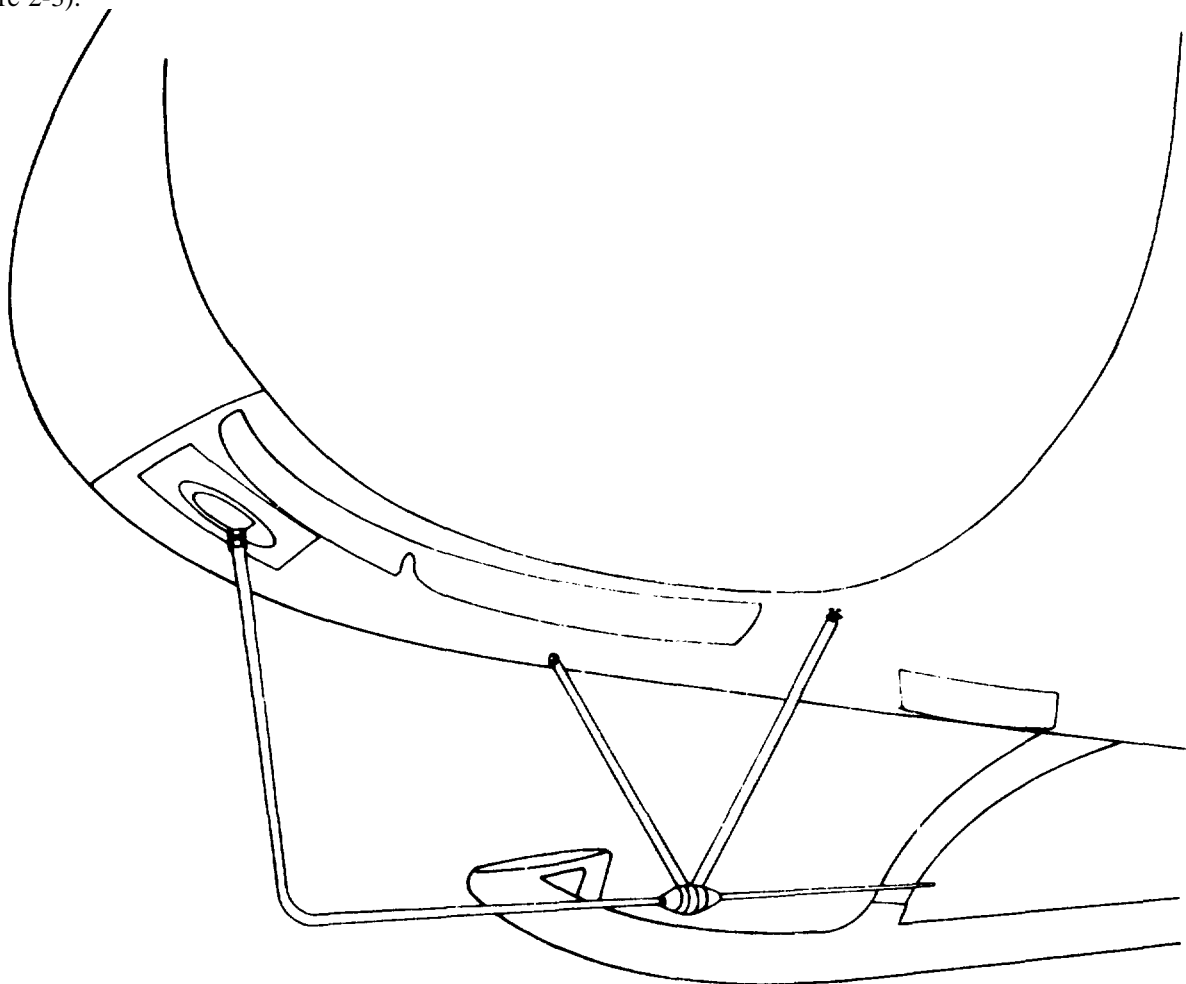

Figure 2-3. Nose Antenna on EH-1H.
(3) Join two 10,000 pound tiedown chains with their hooks. Place chains through fuselage, one resting upon forward tiedown support beam, and one resting upon aft support beam. After positioning helicopter secure tiedown devices to tiedown rings on cargo aircraft floor.
(4) The EH-1H has the dimensions of the UH-1H but will require nose and side antenna removal (Figure 2-3).